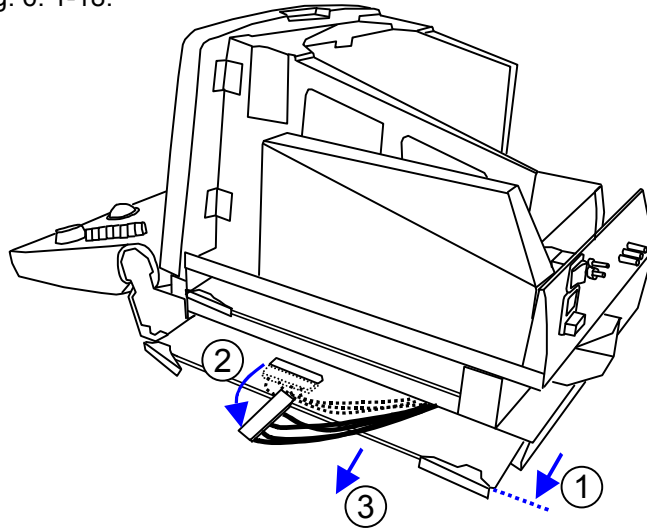

Fig. 6. 1-18. Connector on Core board to be disconnected
1. Pull out the Core board approx. 5 cm. and disconnect the cable attached to it see Fig. 6. 1-18.